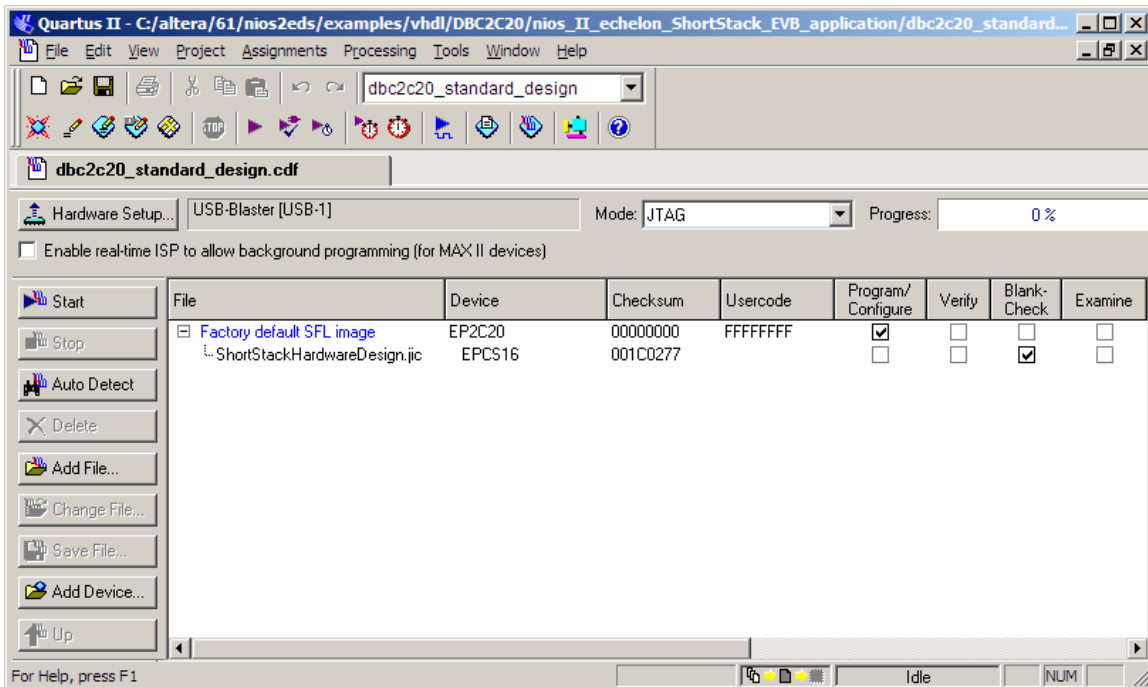

Figure 7. The Chain Description File for the ShortStack 2 Nios II Example Port Project
8. Verify that the **Program/Configure** and **Blank-Check** checkboxes are selected for the hardware design file, as shown in **Figure 7**. Also select the **Erase** checkbox if you want to replace an existing hardware design in the Cyclone II FPGA.